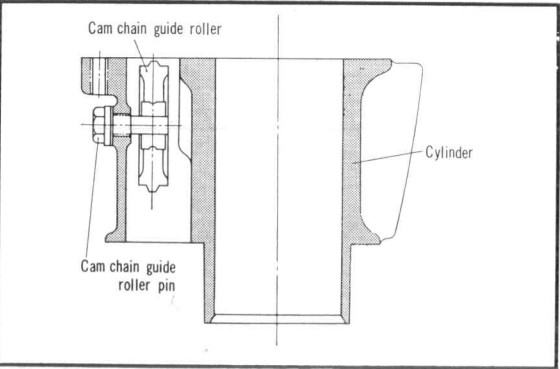

Figure 3-39. Cylinder cross section
- (1) Remove the cylinder head in accordance with section 3.21a.
- (2) Remove the 6mm cylinder HS bolts.
- (3) Remove the 6×14 hex bolt and draw out the cam chain guide roller, this will permit the cylinder to be separated from the crankcase. (Fig. 3-39, 3-40)